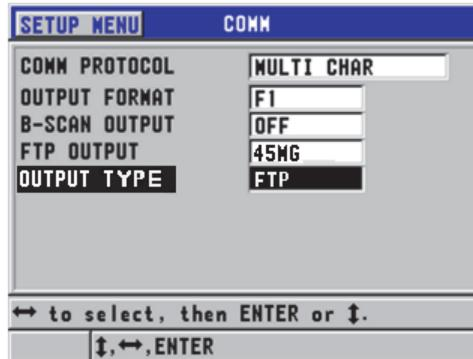

Figure 8-3 The COMM screen
2. In the **COMM** screen (see Figure 8-3 on page 142):